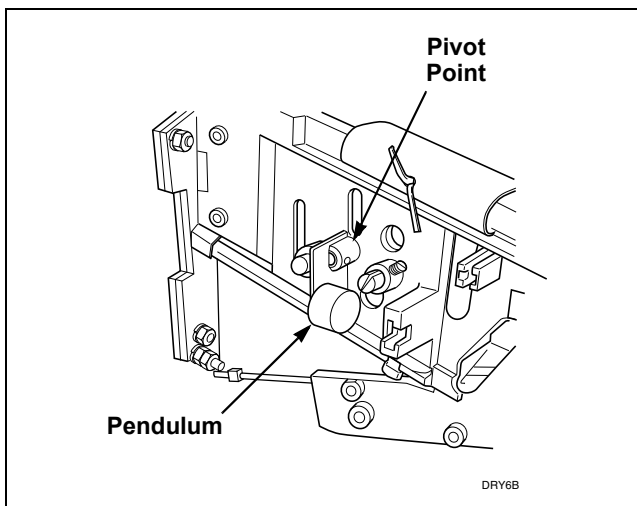

Figure 22
- i. Check coin return pendulum to verify it swings freely. If pendulum does not swing freely, spray pendulum pivot point with Teflon based lubricant and move pendulum back and forth two to three times. An additional application of Teflon based lubricant may be necessary to ensure that pendulum swings freely. Refer to *Figure 22*.